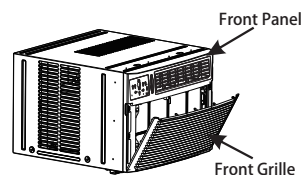

Fig.1
1. Pull down front grille and remove filter. (See Fig.1).